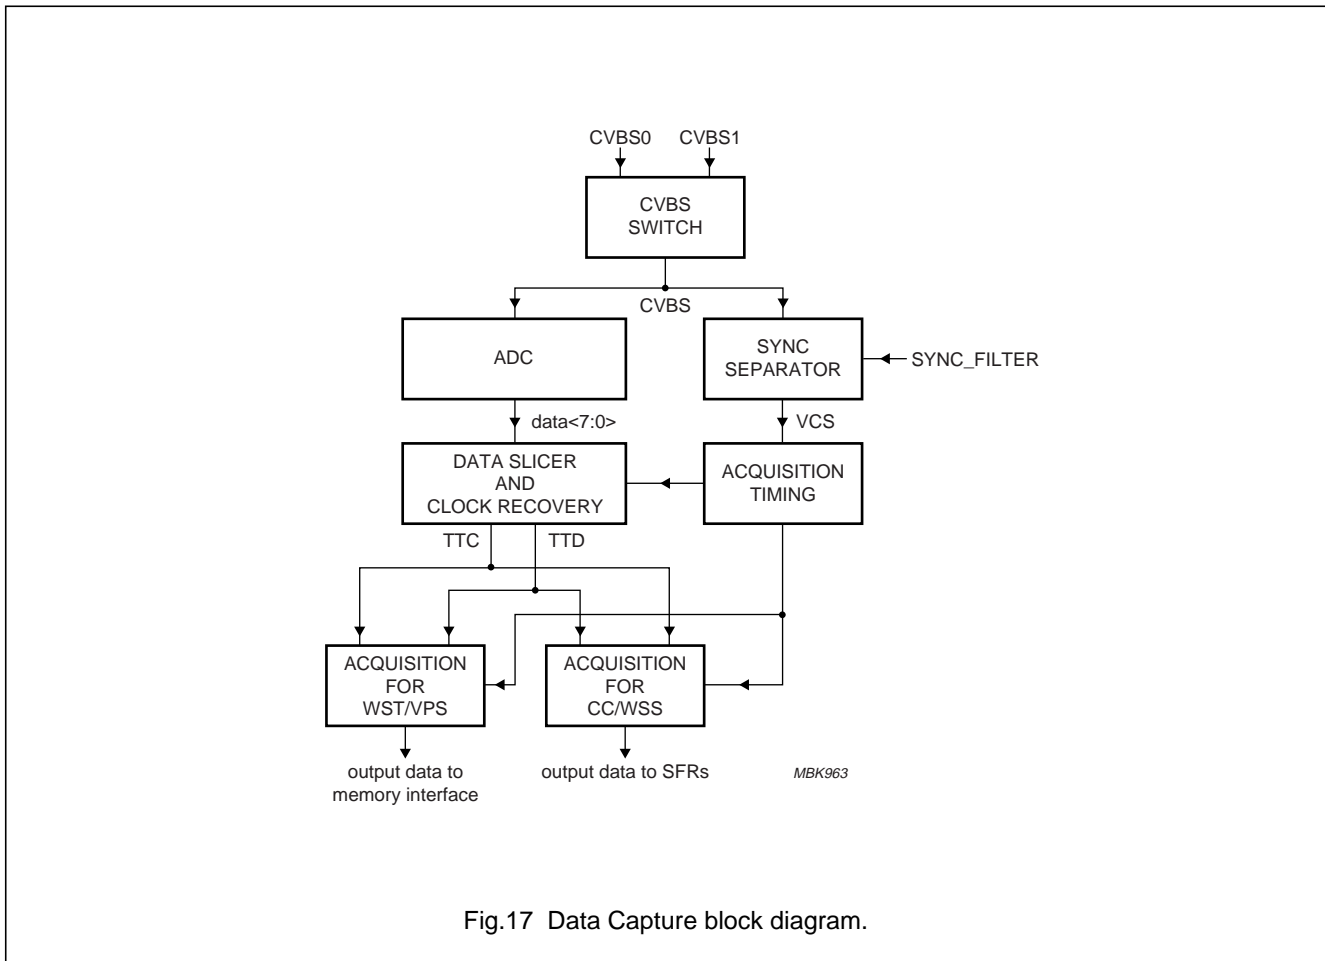

Fig.17 Data Capture block diagram.
The Data Capture section (see Fig.17) takes in the analog Composite Video and Blanking Signal (CVBS), and extracts the required data from it in the digital domain. The data is then decoded and stored in memory. The first stage converts the analog CVBS signal to digital form, using ADC sampling at 12 MHz. Data and clock recovery is then performed by a Multi-rate Video Input Processor (MulVIP). Next, the following types of data are extracted: WST Teletext (625/525), VPS, Closed Caption (CC) and WSS. The extracted data is stored in either memory (DRAM) via the Memory Interface or in SFR locations.
The output of the CVBS switch is passed to a Differential-to-Single-Ended Converter (DIVIS, not shown in Fig.17), although here it is used in single-ended configuration with a reference. A full-flash ADC with a sampling rate of 12 MHz converts the analog output of the DIVIS to a digital representation.